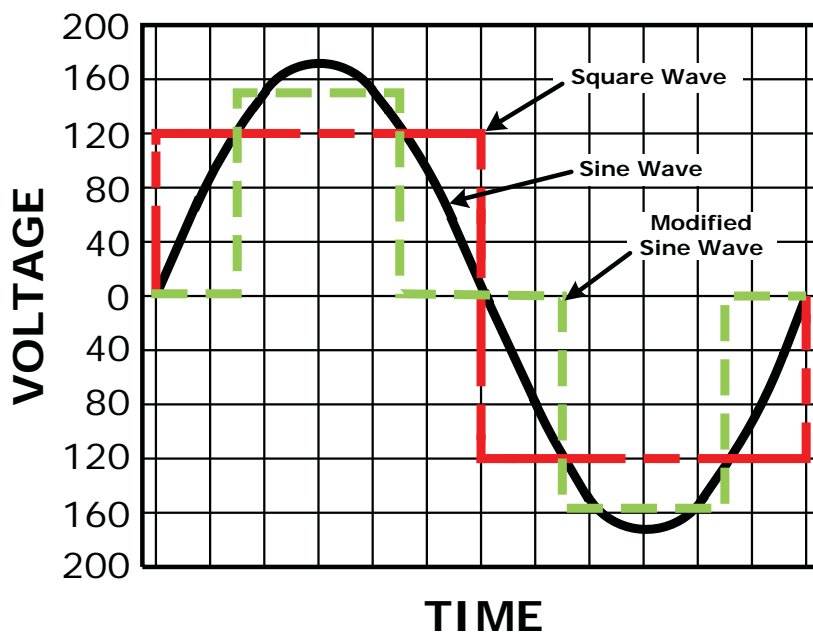

Figure C-1, AC Waveforms
**Modified Sine Wave** – Also referred to as a “quasi sine wave” or a “modified square wave”. This output looks like a one-step staircase and the waveform changes its width to continually provide the correct RMS voltage regardless of the battery voltage. Most loads that run from a sine wave will also run from a modified sine wave. However, things such as clocks and furnace controllers may have trouble (See Figure C-1 below).
**Photovoltaic (PV)** – Solar powered.
**Resistance (Ohms)** – Slows the electrical flow of Direct Current (DC)
**Sine Wave** – An AC waveform that looks like rolling waves on water. It rises and falls smoothly with time. The grid puts out a sine waveform. Any plug-in AC equipment will operate from a sine wave output (shown in Figure C-1).
**Square Wave** – The simplest AC waveform (shown in Figure C-1). Some types of equipment behave strangely when run from a square wave.